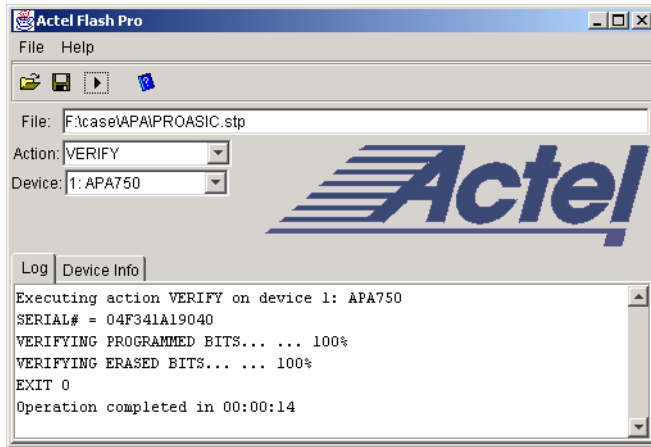

Figure 2-12. Successful Verification
4. **Click *Execute* to start the verification.** A successful verification will result in Exit 0, as shown in Figure 2-12. If the STPL file is different from the file used for programming, Exit 11 appears in the log window (see “Exit 11” on page 35 for more details).